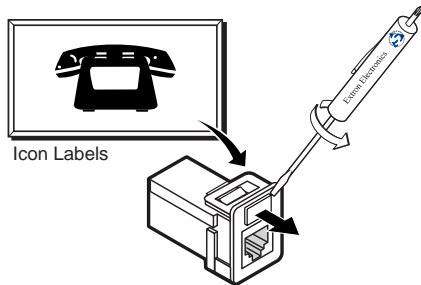

Figure 2-9 — Changing the connector icon
If necessary, on the front panel, have a qualified service person replace the connector icon by prying the old icon off of the connector plug-in with a tweaker (figure 2-9) and snapping a new icon in place.
4. Snap a replacement bezel in place. If necessary, replace the connector icon by prying the old icon off of the connector plug-in with a tweeker (figure 2-9) and snapping a new icon in place.